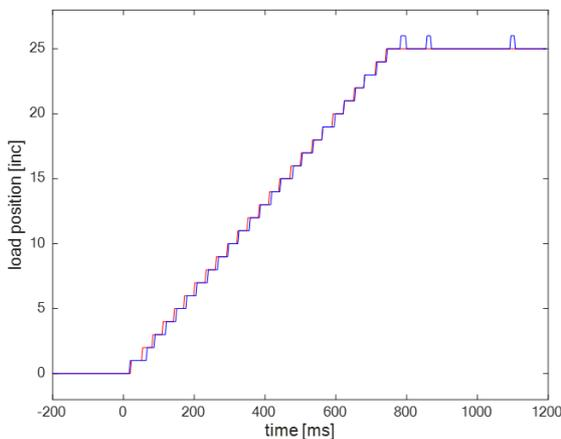
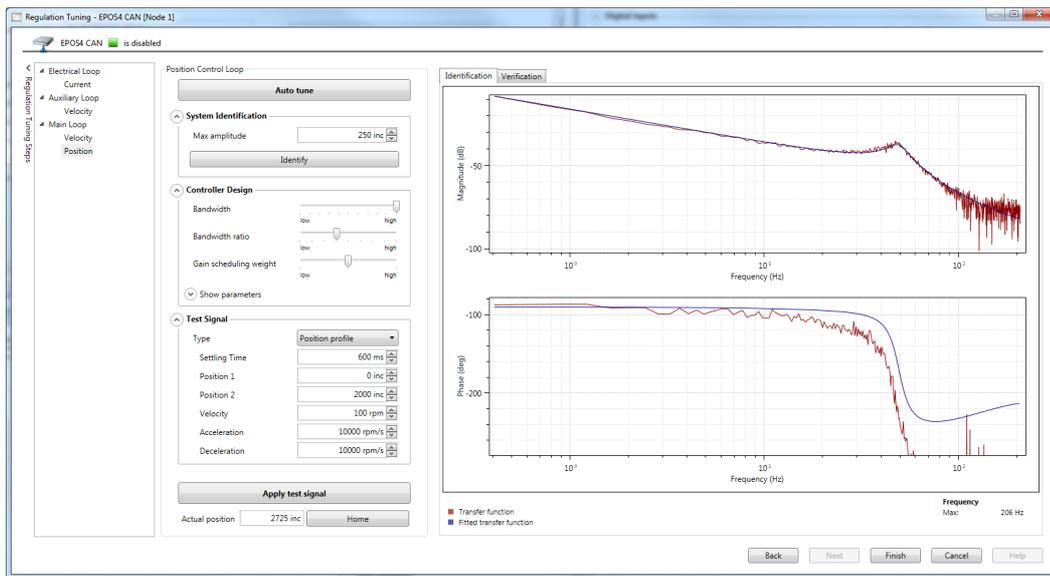
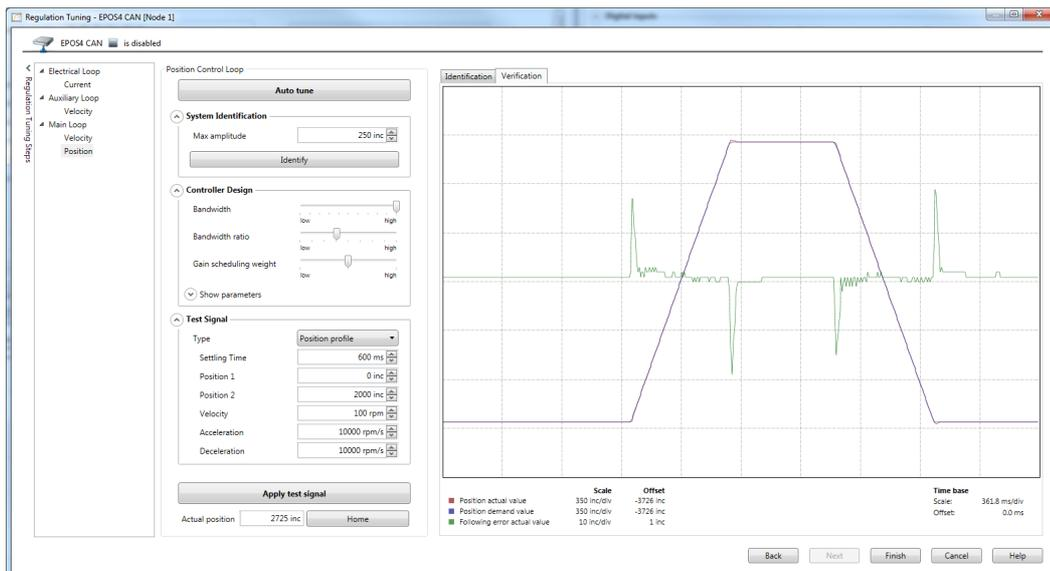

Figure 10-147 Dual loop control | Use case 1: Load position control with PID position controller
Figure 10-149 Dual loop control | Use case 1: Main loop tuning dialog box with the «Identification» tab active
Figure 10-150 Dual loop control | Use case 1: Main loop tuning dialog box with the «Verification» tab active
Using the path planner and executing the trajectory with the maximal velocity of 1 rpm, an acceleration of $1000 \frac{rpm}{s}$, and a position change of 25 increments, the result obtained is as in →Figure 10-147.
- The «Verification» tab in the dialog box contains the test signal of the resulting controller. The «Bandwidth» of the controller can be adjusted using a slider. Higher bandwidth means faster and more aggressive control behavior. However, it should be noted that for each system there are limitations on the achievable closed loop bandwidth and that the auto tuning algorithm will consider these limitations when calculating the main loop parameters. The other two sliders may be used to set the «Bandwidth ratio» and the «Gain scheduling weight». These parameters influence the elimination of the backlash effects and should be adjusted such that no backlash effects (as shown in →Figure 10-147) are visible in the verification signal. Increasing the «Gain scheduling weight» (moving the slider to the right) and decreasing the «Bandwidth ratio» (moving the slider to the left) has a positive effect on eliminating the negative effects caused by the backlash. The main loop tuning dialog box is shown in →Figure 10-149 and →Figure 10-150.